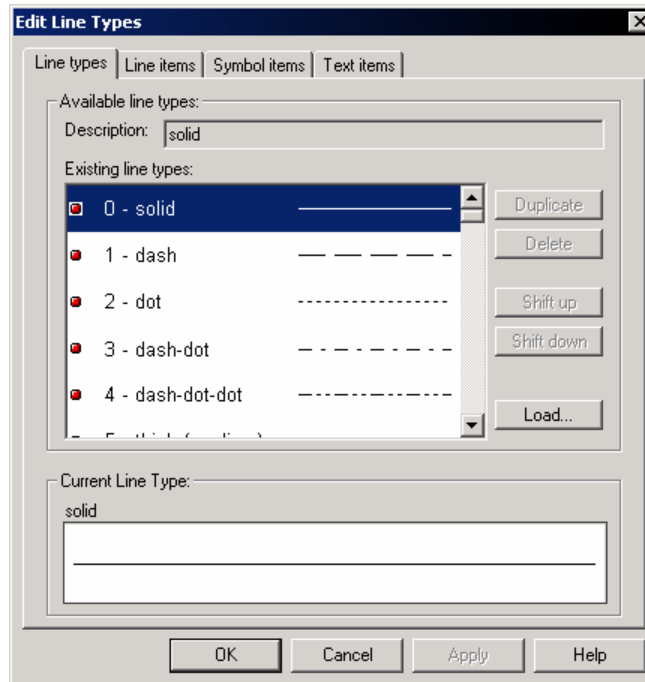

Figure 13.5: Edit Line-types Dialog Box
1. Select Module | Setup. Select the *General* tab. Press the *Line-types* button to activate the Edit Line-types Dialog box. (Figure 13.5)